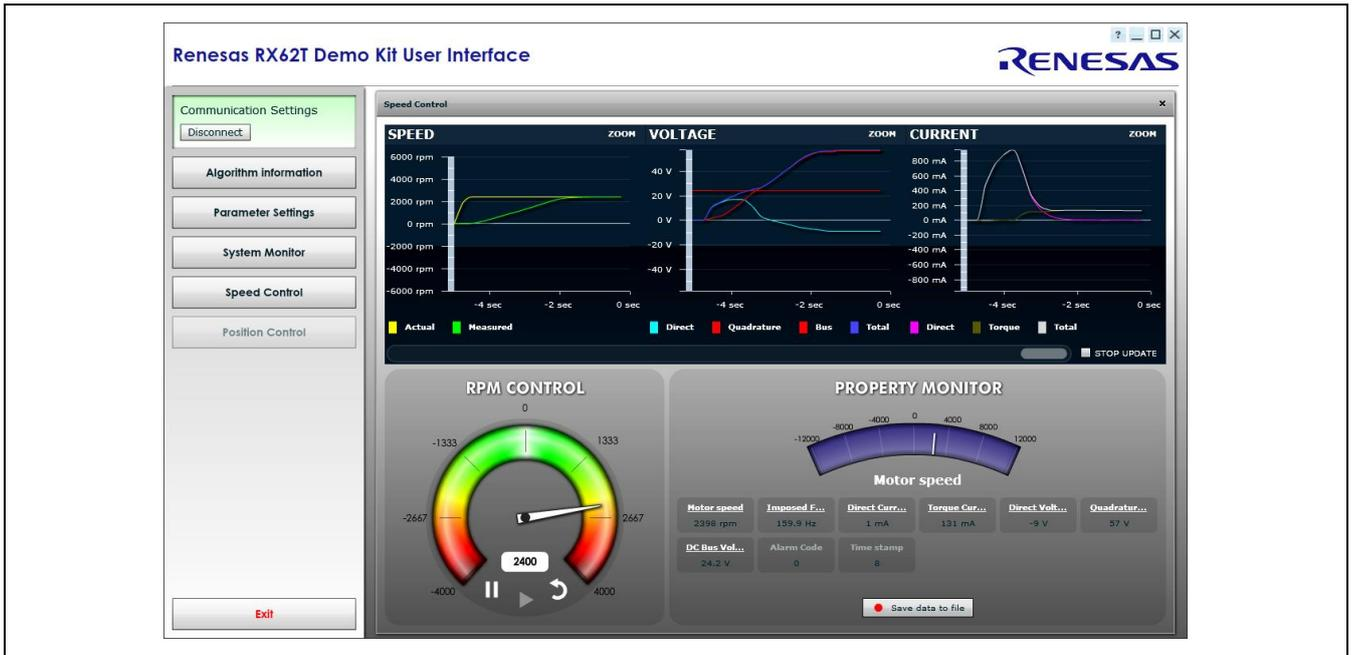

Figure 33 Setting the Speed to Turn the Motor in the GUI Application
Step 6. Set the speed arbitrarily by dragging the indicator needle to the right or left as shown in Figure 33. The speed can also be manually typed into the dialog box below the needle shown in Figure 33.